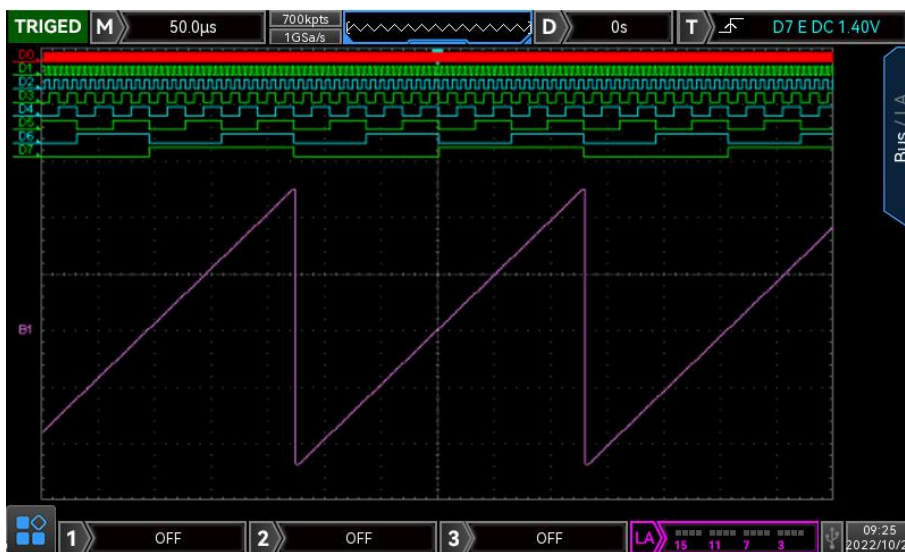

Figure 16-1
- (1) Bus: It can be "BUS1" or "BUS2".
- (2) Bus status: Turn on/off data bus.
- (3) Quick selection: Select the corresponding channel group of BUS1 or BUS2, which can be D0-D7, D8-D15, D0-D15 or None.
- (4) Bit: Select the corresponding channel bit of the bus, which can be D0 ~ D15, CH1 or CH2.
- (5) Bit order: Set the bus bit order, which can select "low to high" (D0 locate in low bit) or "high to low" (D0 locate in high bit).
- (6) Clock: Select any one of channel (D0~D15, CH1, CH2) as the reference clock of bus. Select "NULL" means not set the reference clock.
- (7) Edge type: Set sampling edge type of reference clock, which can be "rising edge, falling edge".
- (8) Display type: Select display format of data bus, which can be hexadecimal, decimal, binary system, ASCII or figure. In figure display mode, the oscilloscope will display the bus data to the level of the corresponding value in a specific way. It is convenient to observe the changing trend of bus value, as shown in Figure 16-1.
- (9) Shake proof: Turn on/off shake proof function.